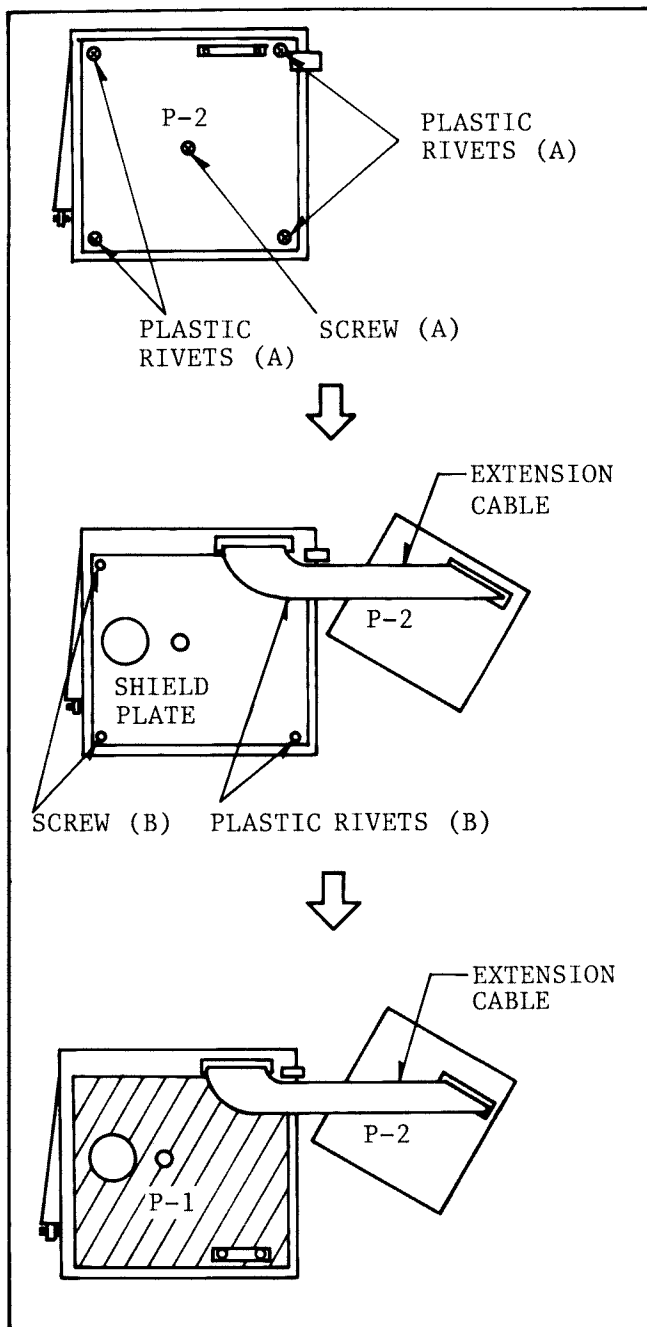

Fig. 2-5-3. VIDEO ADJUSTMENT CONDITION
2. Remove the screw (A) and pull out the 4 plastic rivets (A), as shown in Fig. 2-5-3.
4. Remove the 2 screws (B) and the 2 plastic rivets (B). Remove the shield plate.